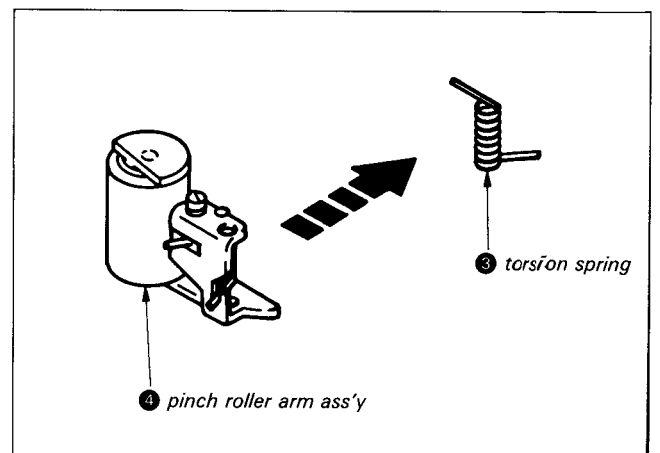

Fig. 7-18.
- 6) Remove torsion spring ❸. (See Fig. 7-18.)